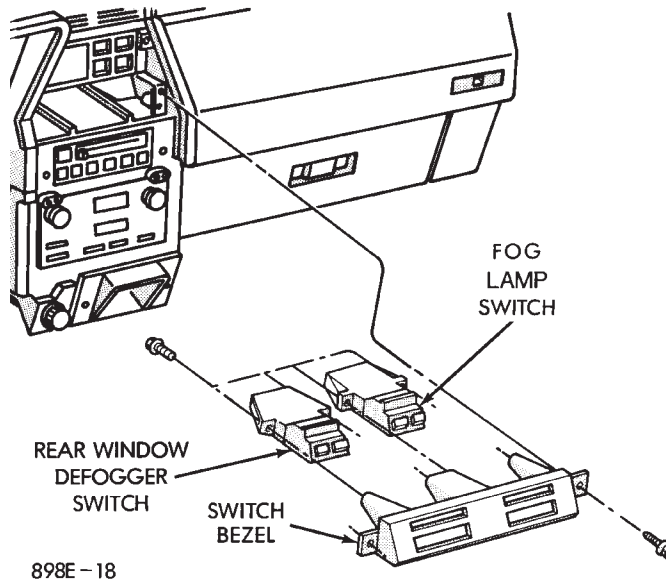

Fig. 25 Rear Window Defogger and Fog Lamp Switch
- (1) Remove center bezel assembly (Fig. 25).